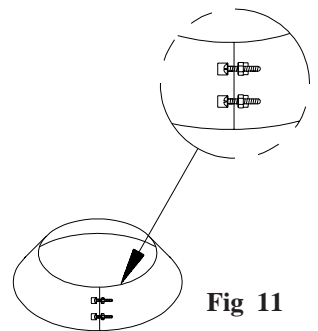

**Fig 10**
9. **Install Attic Insulation Shield:** Install the Attic Insulation Shield where the chimney passes into an attic. It's purpose is to prevent debris and insulation from getting too close to the chimney (Fig 10). An installed Attic Insulation Shield is 15 inches high. In attic areas where this shield cannot fit, you must enclose the attic portion of the chimney in a framed enclosure. If the chimney is fully enclosed through the attic, an Attic Insulation Shield is not required. Where the chimney passes into the attic, install the Attic Insulation Shield as follows:
- d Secure the Attic Insulation Shield to the top of the framed opening using at least (3) 8-penny nails or (3) #8, 1-1/2" wood screws per side (Fig 10).